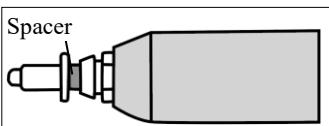

Fig. 1-6
(6) Prepare the rivet gun tool. Apply electrical tape or friction tape to tool shaft to avoid damage to painted brackets. See Fig. 1-6, light shade shows taped area.